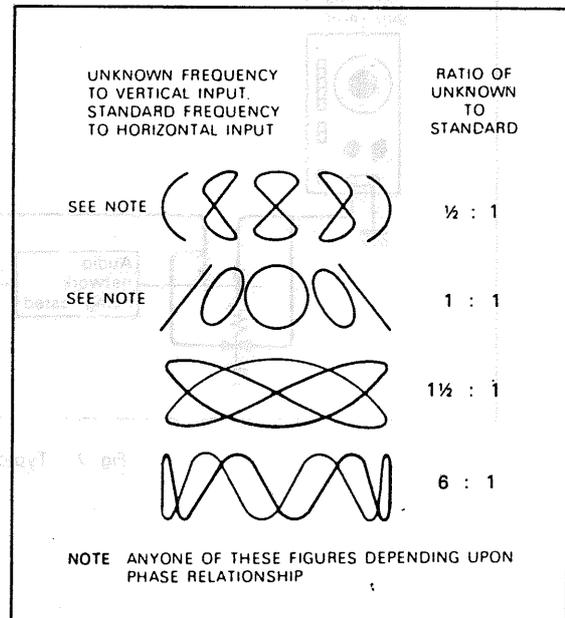

Fig. 10. Lissajous' waveforms used for frequency measurement
4. The resulting Lissajous' pattern shows the ratio between the two frequencies (see Fig. 10).